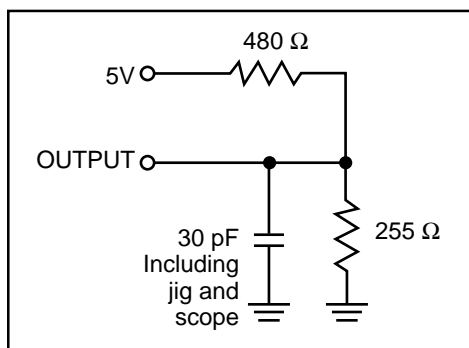

Figure 1
1. Test conditions assume signal transition times of 3 ns or less, timing reference levels of 1.5V, input pulse levels of 0 to 3.0V and output loading specified in Figure 1.
Output Load	See Figures 1 and 2
1. Test conditions assume signal transition times of 5 ns or less, timing reference levels of 1.5V, input pulse levels of 0 to 3.0V and output loading specified in Figure 1.